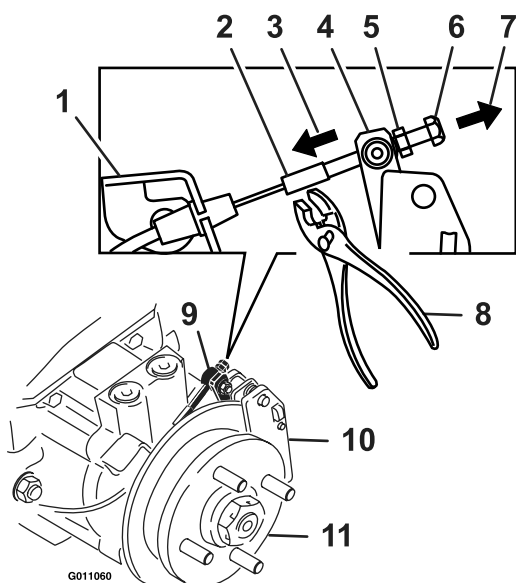

Figure 31
9. Hold the threaded rod end with a tool and loosen the lock nut away from the standard nut (see Figure 31). Do Not allow the cable to turn when the nuts are being loosened.
10. Remove all slack from cable by pulling on the caliper lever arm with a medium amount of force. Using hands and fingers only, push the caliper lever arm to engage the brake pads on the rotor until the lever stops. While holding the lever at the stopped position, use the other hand or fingers to pull the slack out of the cable threaded end through the swivel. Spin the standard nut against the swivel (see Figure 31).